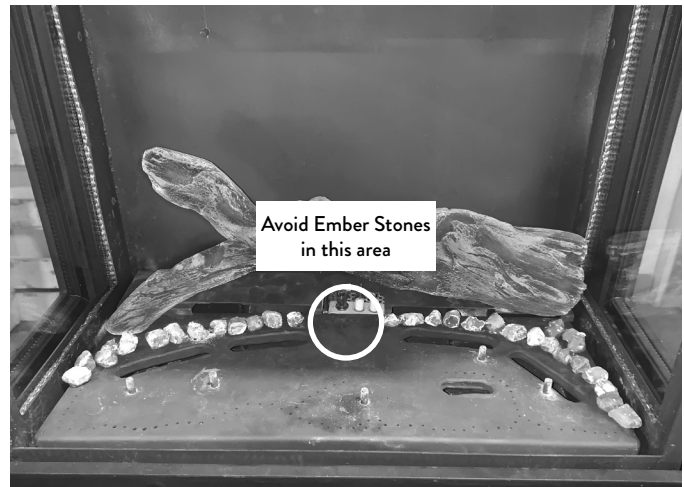

Figure 11.2. Place 12-15 Ember Stones on each side of the Burner. Avoid the Pilot carry-over area.
2. **Place 12-15 Ember Stones** on each side of the rear of the Burner as shown in fig. 11.2. **KEEP EMBER STONES AWAY FROM THE PILOT CARRY-OVER AREA AND BURNER PERIMETER.**